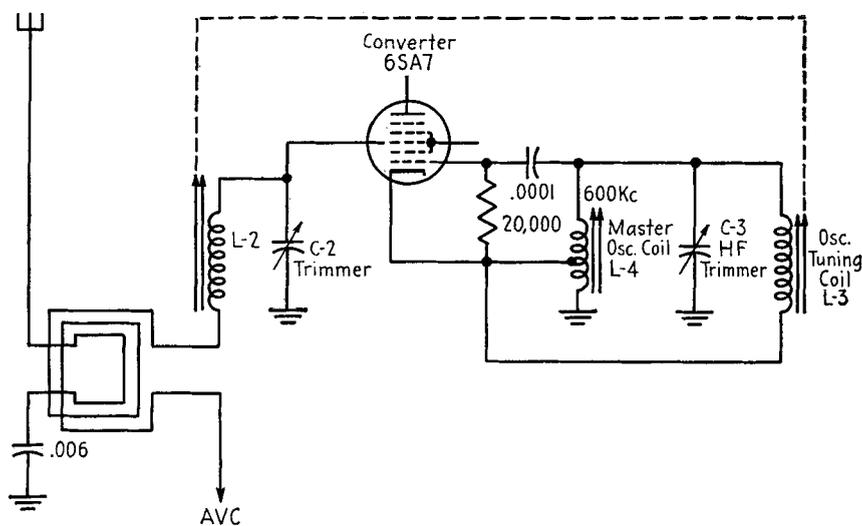

FIG. 15-10. Two-coil permeability tuner fed by a loop antenna.
Antenna plates are commonly used in receivers employing permeability tuners. However, there are some receivers that employ a loop antenna. Figure 15-10 shows a two-gang permeability tuner of the screw-drive type fed by a loop antenna.
8. What is the function of  $L-4$  in Fig. 15-10? What is the function of  $L-3$  in the same drawing?